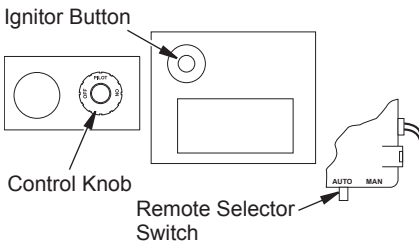
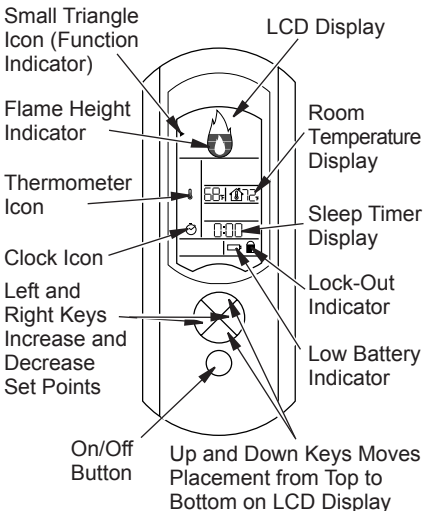

Figure 31 - Remote Selector Switch, Control Knob and Ignitor Button
Figure 34 - Remote Control
3. Set remote selector switch in the AUTO position (see Figure 31).
4. Press in and turn control knob clockwise ↻ to the OFF position (see Figure 31).
5. Wait five (5) minutes to clear out any gas. Then smell for gas, including near the floor. If you smell gas, STOP! Follow "B" in the safety information on page 20. If you don't smell gas, go to the next step.
6. Press in and turn control knob counterclockwise ↻ to the PILOT position. Press in control knob for five (5) seconds (see Figure 34).
Press on/off key on remote control and turn control knob clockwise ↻ to the OFF position (see Figure 31).
1. Turn control knob clockwise  to the ON position (see Figure 31, page 20).
2. Press the ON button on remote control (see Figure 34). Wait 5 seconds to send a command to appliance.
Press the up or down key until the small triangle is to the left of large flame icon at the top of LCD display (see Figure 34). Press the left or right key to set the desired flame height. Six flame levels are available from 1 (minimum) to 6 (maximum).
Press the up or down key until the small triangle is to the left of the thermometer icon (see Figure 34). Press the left or right key to set the desired room temperature.
Press the up or down key until the small triangle is to the left of the clock icon (see Figure 34). Press the left or right key to set the desired sleep time. Maximum sleep time is 90 minutes, in 15 minute increments. When desired time is set, press the up or down key to start the timer. When the desired time has elapsed, the appliance will automatically switch off.
A battery icon will be displayed on the LCD display when batteries are low in the remote control (see Figure 34).
When batteries are low, it is not possible to turn on the appliance with the remote control. Appliance can be turned on or off manually by setting the backup switch of the receiver to MAN position (see Figure 31, page 20). Remote control and receiver will restart normal operation after batteries are replaced. See *Installing Batteries for Remote Receiver and Hand Held Remote Control*, page 19.